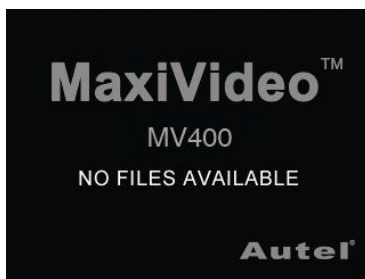

Fig. 28
- ✓ *When you delete all the photos or videos, a “No Files Available” message appears on the screen. (Fig. 28)*